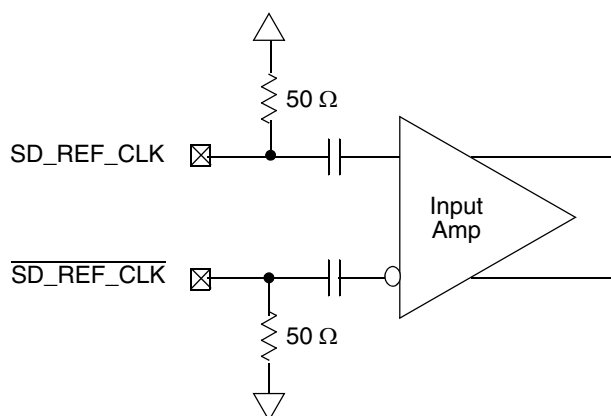

Figure 16. Receiver of SerDes Reference Clocks
Figure 16 shows a receiver reference diagram of the SerDes reference clocks.
- The SD_REF_CLK and $\overline{\text{SD_REF_CLK}}$ are internally AC-coupled differential inputs as shown in Figure 16. Each differential clock input (SD_REF_CLK or $\overline{\text{SD_REF_CLK}}$) has a 50- Ω termination to XCOREVSS followed by on-chip AC-coupling.